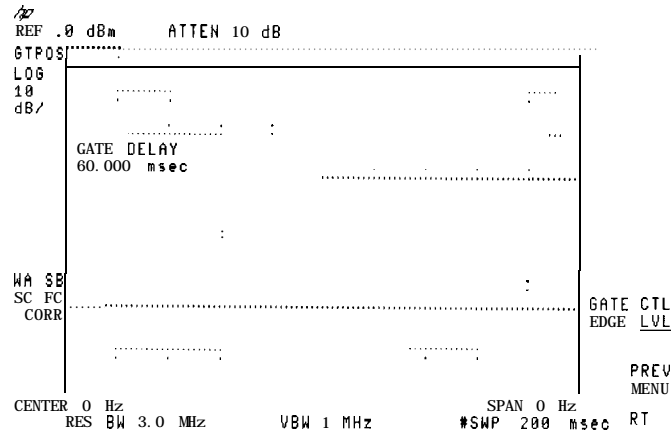

Figure 4-33. Using the Level Gate Control
- To check the gate control function, press **SWEEP**, Gate Control, GATE CTL EDGE LVL so that LVL (level) is underlined (see Figure 4-33).